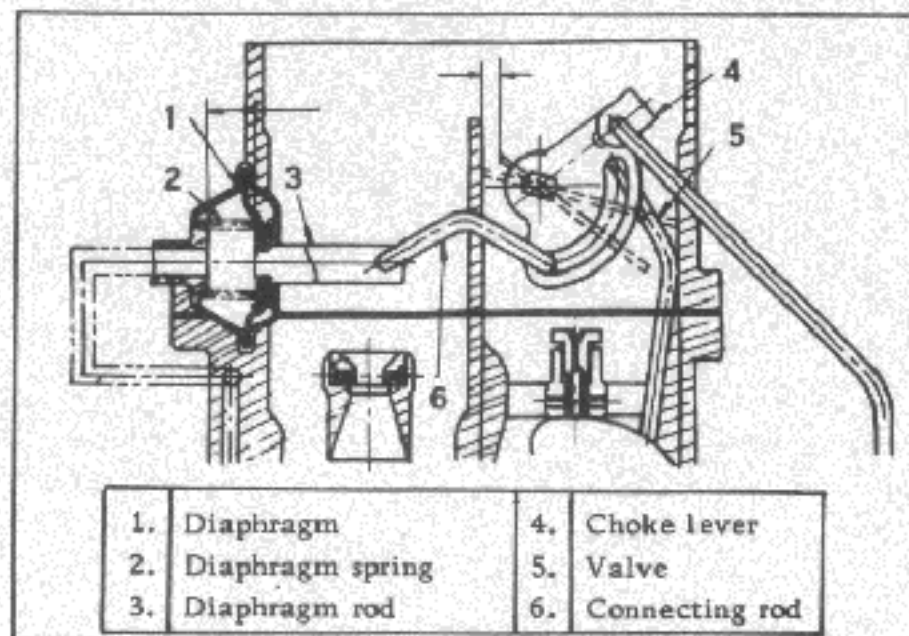

Fig. EF-50 Adjustment of opening where the engine starts firing
(1) Remove bimetal case by releasing the two set screws.
(2) Since bimetal in the bimetal case is an important part with its sensitive performance, do not attempt to move it by force. Any improper handling may cause permanent distortion of bimetal.
(3) In assembling, place thermostat cover gasket gently and install thermostat cover after having been sure that the lever on which bimetal hangs moves smoothly.
(4) Make sure that bimetal in bimetal case hangs on lever.
(5) After tightening completely, bend and adjust bimetal rod so that the upside of bimetal case is level with the underside of a slit of 0.5 mm (0.02 in.) with on bimetal rod.
(6) Be sure that bimetal rod operates smoothly.
(7) To determine the opening, move diaphragm rod to the left ($\ell = 0$) as shown in Fig. EF-50, and adjust choke valve opening then (Re) to 1.8 mm (0.0709 in.) by bending connecting rod.